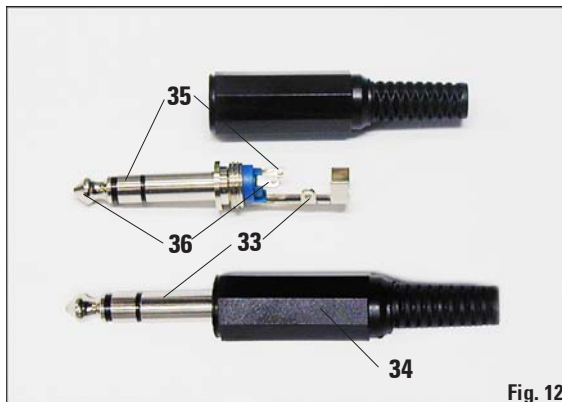

Fig. 12
Each alarm is connected to plug (34) as follows (see Fig. 12):